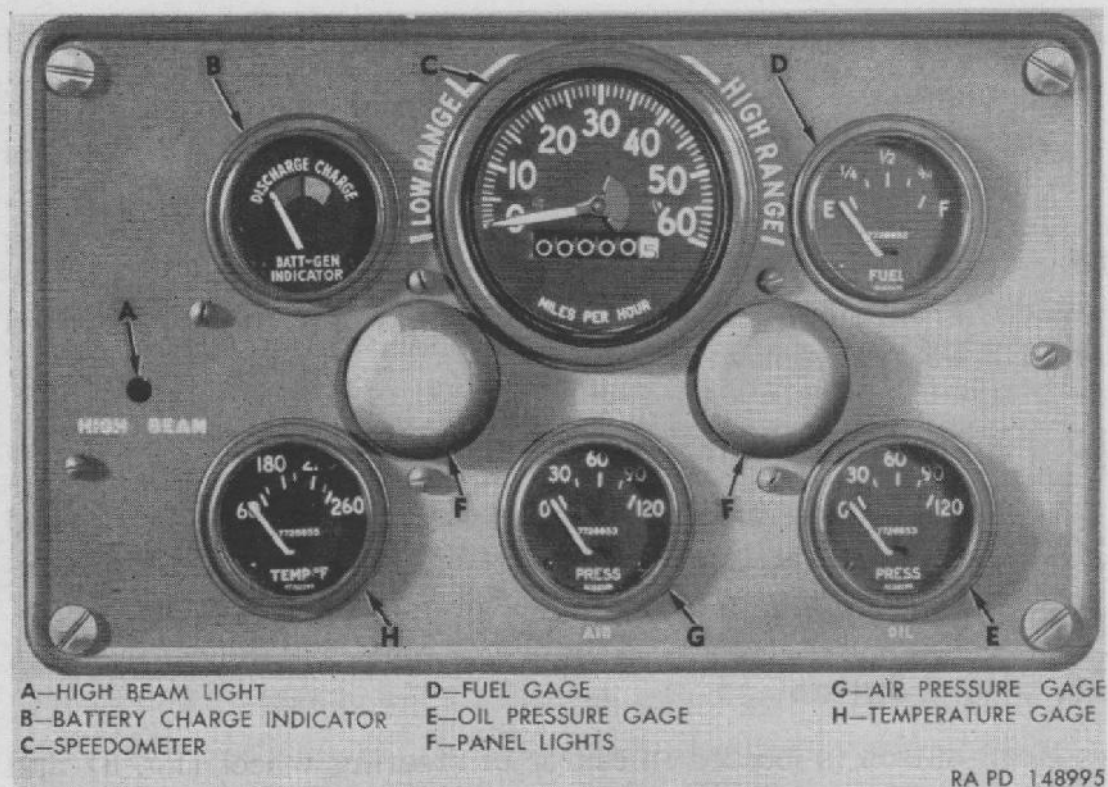

Figure 10. Instrument panel cluster.
b. All pedal and hand lever controls, instruments, gages, and switches are grouped in the driver's compartment (figs. 8 and 9) and are readily accessible to the driver for the operation of the vehicle. The major graduations, letters, figures, and pointer tips on instruments and gages grouped in instrument cluster (fig. 10) are coated with luminous paint.
Light is located in instrument panel cluster and is marked HIGH BEAM directly under light (fig. 10). This light illuminates whenever upper beam of service driving light is used.
The indicator, marked BATT-GEN INDICATOR, is located in instrument cluster (fig. 10). Face of gage is divided into two arcs marked DISCHARGE and CHARGE. The DISCHARGE arc is colored red and the CHARGE arc is colored green. The purpose of the indicator is to indicate charging activity of the generating circuit. The indicator will generally show a charge
Temperature gage, marked TEMP ° F, is located in instrument panel cluster, directly under battery charge indicator (fig. 10). Face of gage is marked in graduations of 40° F from 60° to 260° F. After ignition switch is turned on, gage is activated by a sending unit mounted in engine thermostat housing. Purpose of the gage is to indicate temperature of engine cooling system in degrees Fahrenheit. Operating temperatures between 160° F. and 220° F. are satisfactory for engine operation under normal operating conditions. If temperature rises sharply during warm-up or normal operation, stop engine and determine cause. Excessive low operating temperatures during normal operation also indicates faulty cooling system.
Oil pressure gage (marked OIL on panel under gage, and marked PRESS on gage face) is located in lower right portion of instrument panel cluster (fig. 10). Gage hand is marked in graduations of 30 psi from 0 to 120 psi. After ignition switch is turned on, gage is activated during engine operation by a sending unit connected to engine oil system gallery. Purpose of gage is to indicate engine oil pressure when engine is running. When engine is started cold, oil pressure may rise sharply, then recede to normal after engine is warmed up. With engine at slow idling, pressure should be approximately five psi. Absence of oil pressure during engine operation indicates faulty oiling system or inoperative gage circuit, and engine should be immediately stopped.
Air pressure gage (marked AIR on panel under gage, and marked PRESS on gage face) is located on instrument panel cluster to the left of oil pressure gage (fig. 10). Gage face is marked in graduations of 30 psi from 0 to 120 psi. After ignition switch is turned on, gage is activated by a sending unit connected to air pressure line. Purpose of the gage is to indicate air pressure in air storage tanks. Full pressure in system is 100 psi. With engine running, air compressor governor cuts in at approximately 75 psi and compressor builds pressure up to full pressure (100 psi). Do not drive vehicle until pressure is up to 60 psi. If, during operation, air pressure buzzer sounds (when below 60 psi) vehicle should be stopped and cause of air leakage corrected.
Fuel gage is located in upper right portion of instrument panel cluster (fig. 10). Face of gage is marked FUEL and is graduated; E (empty); $\frac{1}{4}$; $\frac{1}{2}$; $\frac{3}{4}$; F (full). Purpose of gage is to indicate level of fuel in fuel tank. Ignition switch must be turned on to show reading on gage.
Speedometer is located in center of instrument panel cluster (fig. 10). Speedometer indicates truck road speed in miles-per-
hour, and also records total mileage. Face of speedometer is marked in graduations of 1 mph from 0 to 60 mph. Maximum permissible road speeds in high and low transmission ranges are indicated on transmission control plate (fig. 12); these speeds are also marked on instrument cluster around circumference of speedometer (fig. 10).